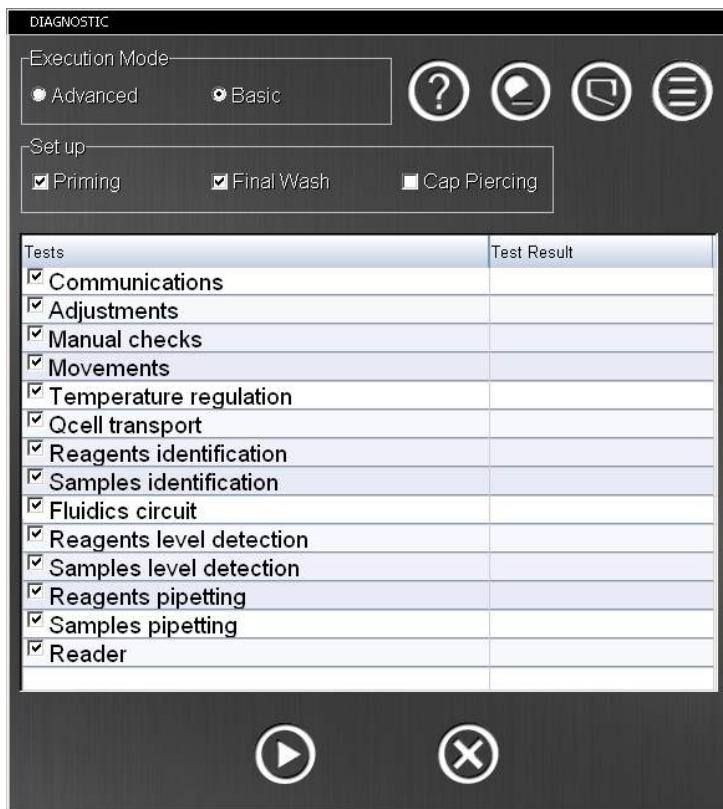

Figure 16.3. Diagnostic Window
- To view or save a **QDiagnostic** test report into an external USB data storage device, press **Print Report** button (Figure 16.3). After clicking on it, there are two options available: